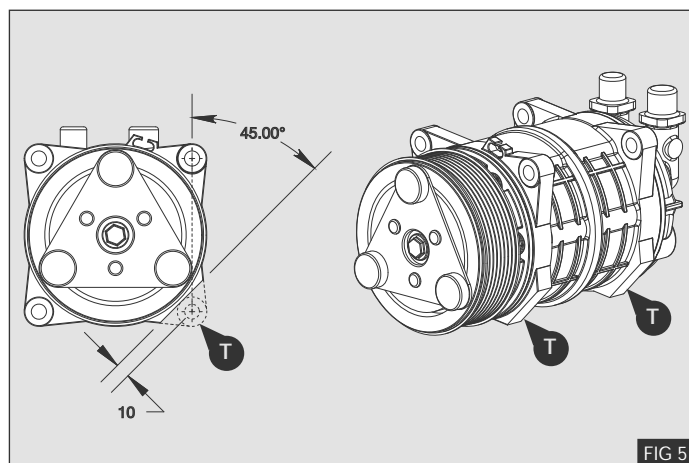

FIG 5
1. Remove compressor ears **T** as shown opposite - Fig.5.